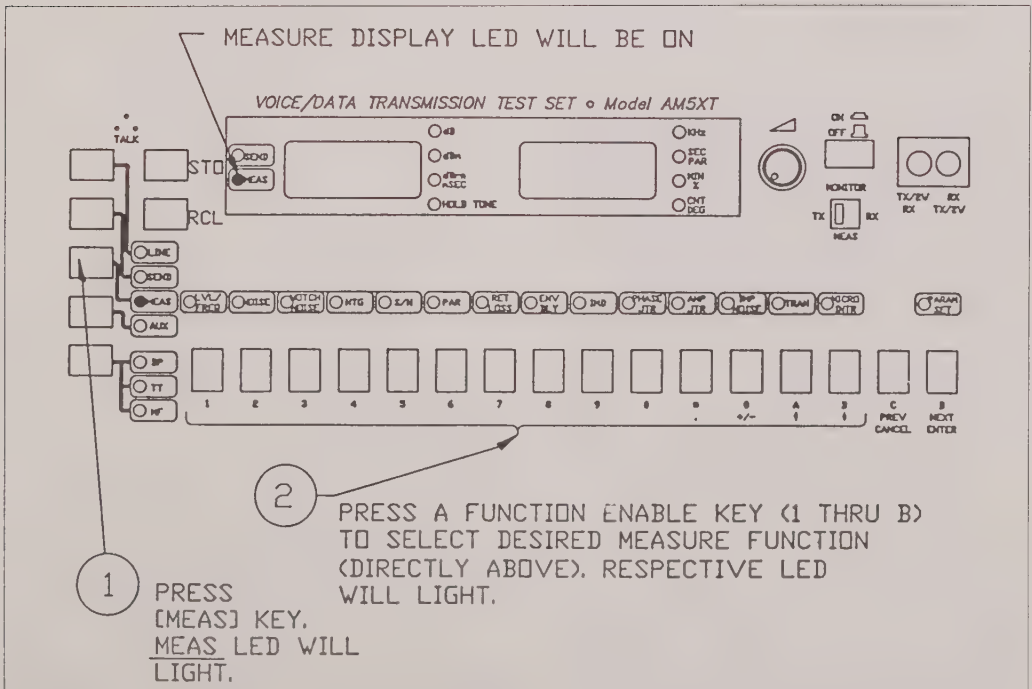

Figure 8-1. Procedure to Enable Measure Modes
The AM5XT/eXT contains highly versatile detectors and filters which are connected to the receive line (RX) under test. The term MEASURE refers to the detection mode being used in order to detect and display the characteristics of the received signal(s). See Figure 8-1 for instructions to select desired Measure Mode. Note that Measure functions are color-coded BLUE.